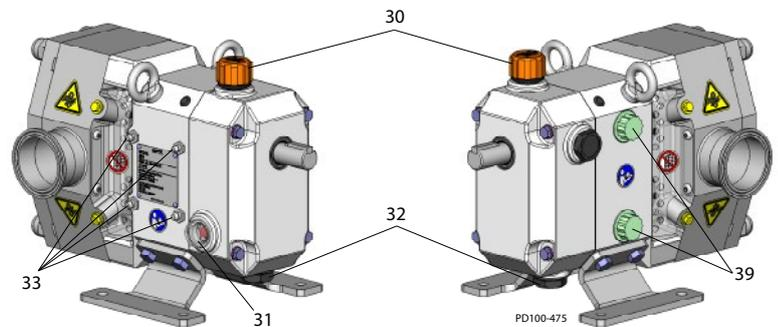

Figure 26 - Lubrication Points
**Table 1: Callout table for Figure 26**
**CAUTION:** Each pump is shipped from the factory with the gearbox sealed. Prior to operation, check the oil level and replace the uppermost oil drain plug with the supplied oil fill breather, at the location of item 30 in Figure 26.
Excess grease will accumulate in the gear case. Remove it through the cleanout hole covered with a plastic plug (Figure 26, item D).